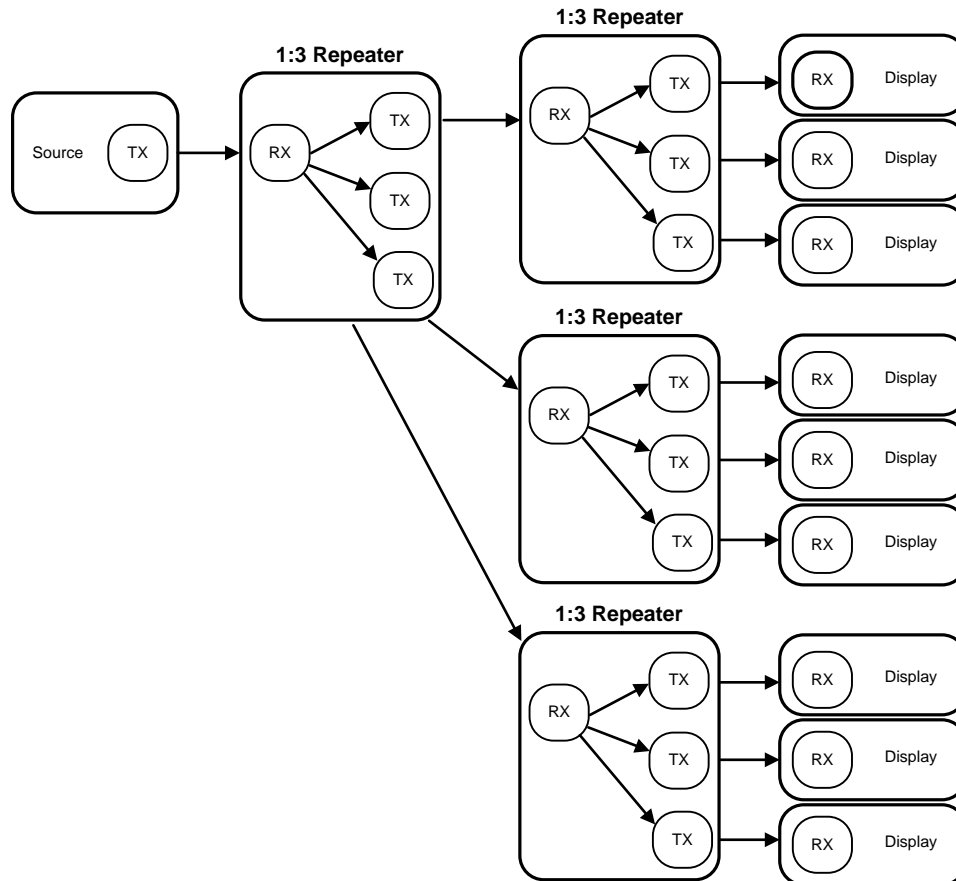

Figure 17. HDCP Maximum Repeater Application
In HDCP repeater application, In this document, the DS90UH925AQ is referred to as the HDCP Transmitter or transmit port (TX), and the DS90UH926Q is referred to as the HDCP Receiver (RX). Figure 17 shows the maximum configuration supported for HDCP Repeater implementations using the DS90UH925AQ (TX) and DS90UH926Q (RX). Two levels of HDCP Repeaters are supported with a maximum of three HDCP Transmitters per HDCP Receiver.